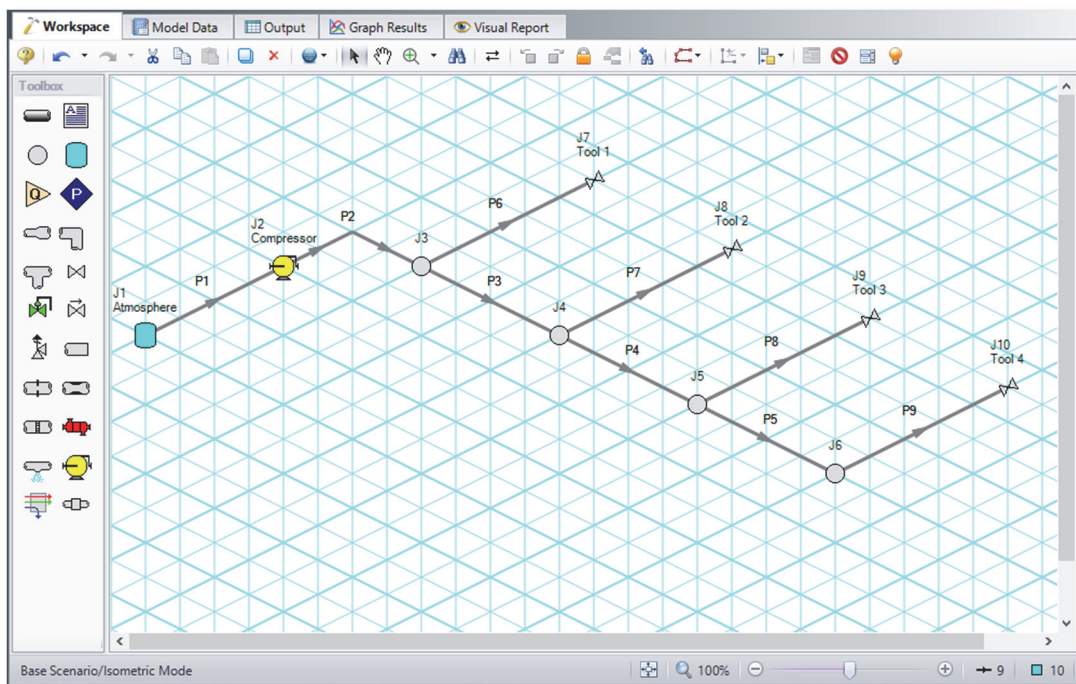

Figure 3.18 Compressed air system with isometric grid shown
At times it may be convenient to demonstrate the three-dimensional nature of a system. For example, if you are building a model based on isometric reference drawings. AFT Arrow includes an Isometric Pipe Drawing Mode for these cases. The isometric grid has three gridlines that are offset by 60° , representing the x, y, and z axes. Figure 3.18 shows the compressed air system built on an isometric grid.
3. Place junctions J1-J7 on the Workspace in the positions shown in Figure 3.18.